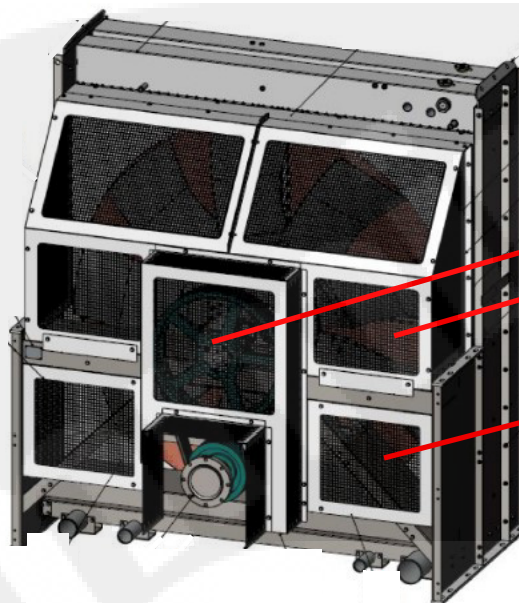

Figure 7-42 Radiator fan access panels ((back of GenSet radiator)
To ensure optimal GenSet operation, it may be necessary to adjust the alternator belt tension. Figure 7-42 shows the location of the alternator fan access panels.
2. Remove the bolts of the radiator fan access panels (shown in Figure 7-42) and carefully remove the panels.
2. Remove the bolts of the radiator fan access panels and carefully remove the panels (shown in Figure 7-42, above).